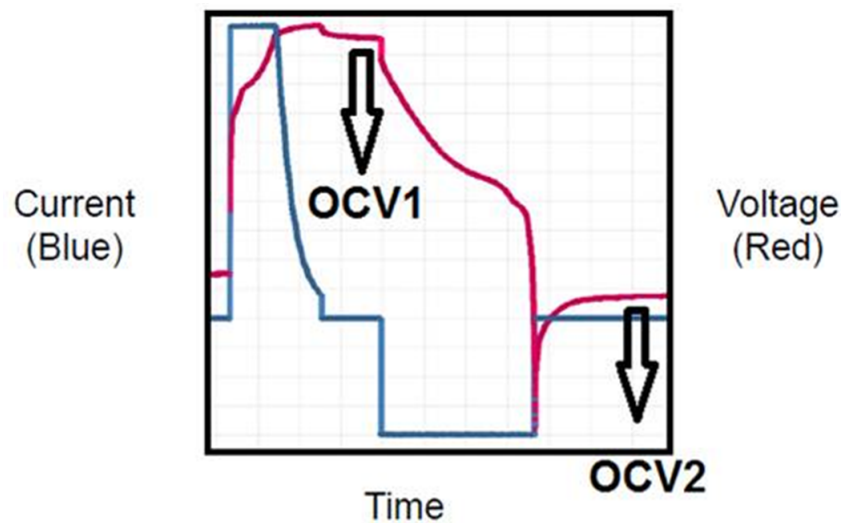

Figure 1. Illustration of OCV1 and OCV2
2. OCV1 means Depth of Discharge (DOD) of 0%, OCV2 means DOD of 100%. The gas gauge doesn't know how the battery behaves below OCV2 and above OCV1, therefore, it is important to take these two readings accurately. Figure 1 demonstrates what these terms mean.